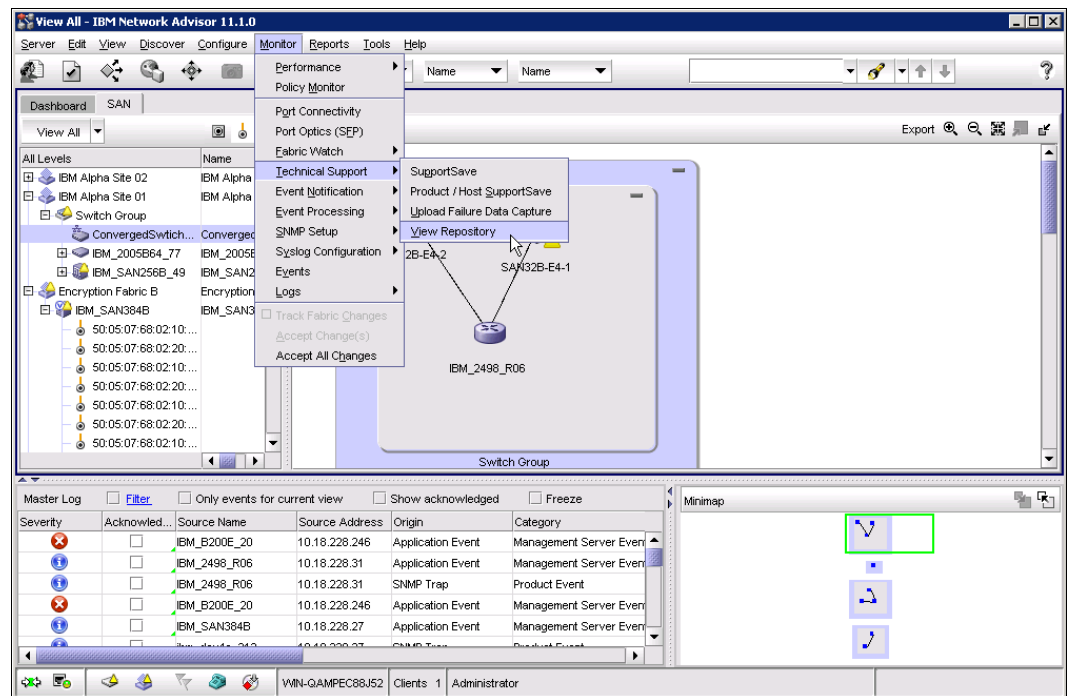

Figure 15-8 View Repository
3. To view and save the technical support information, click **Monitor** $\varnothing$ **Technical Support** $\varnothing$ **View Repository**, as shown in Figure 15-8.